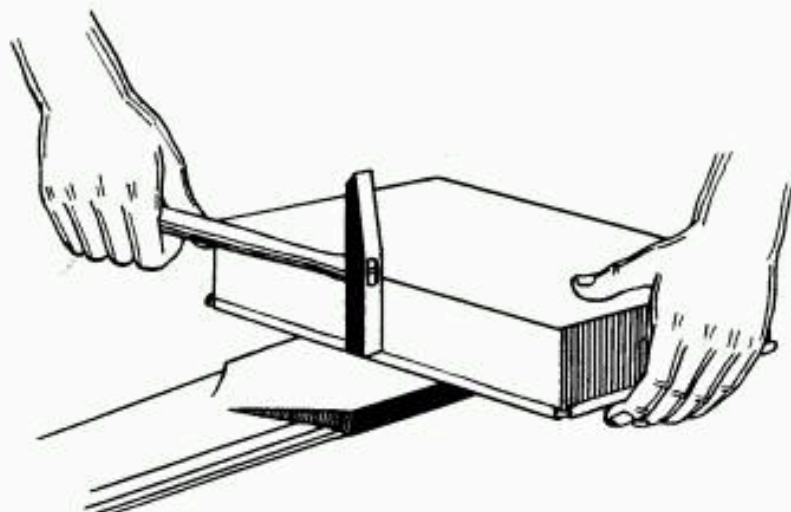

FIG. 14 BENDING METAL OVER WIRE
13. Bend the metal over the wire as far as possible with the face of the setting hammer. (Fig. 14).